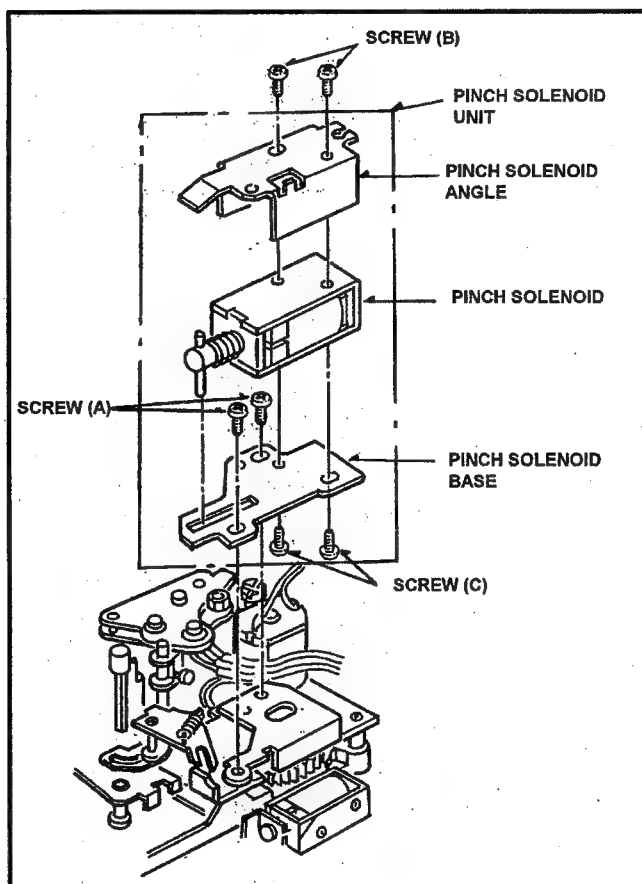

Fig. 6-8-1. Removal of Pinch Solenoid
5. Unscrew the 2 screws (A) and remove the Pinch Solenoid Unit as shown in Fig. 6-8-1.
6. Unscrew the 2 screws (B) and remove the Pinch Solenoid Angle as shown in Fig. 6-8-1.
7. Unscrew the 2 screws (C) and remove the Pinch Solenoid from the Pinch Solenoid Base.